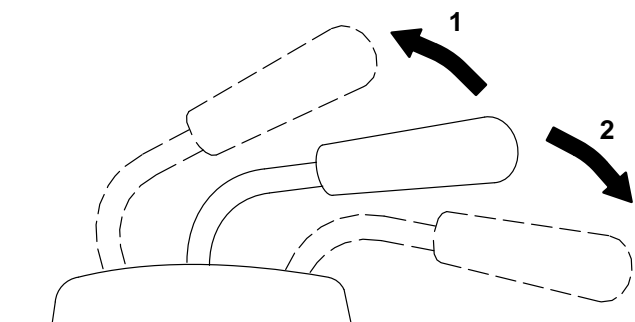

Figure 19
2. Pull the lift lever UP to raise the attachment (Fig. 19). This will lift and hold the attachment in the raised position.
2. Push the lift lever DOWN to lower the attachment (Fig. 19).